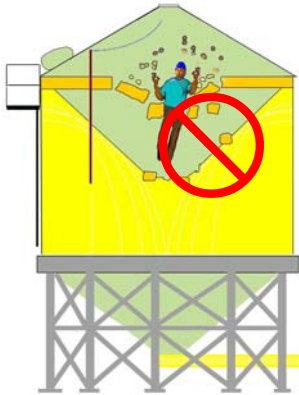

Figure 10a.
3. Never enter a bin that you do not know the nature of previous grain removal, especially if there is any vertical or horizontal **crusting or bridging** evident. See **Figure 10a**, left. There may be blocked flow, toxic molds, empty cavities, cave-offs, or any combination of the above—which can lead to entrapment/engulfment and suffocation.
10. Provide *per entrant* a minimum of two (2) **properly equipped attendants** stationed outside the bin, whose only task is to continuously track and communicate with the entrant in the bin, to provide assistance if necessary, and to be capable of lifting the entrant out without entering the bin themselves. **Never depend** on one (1) attendant only, either on the roof, ground, or any other remote point to whom you would shout instructions *to start or stop equipment*. (Equipment noise or other sounds can block out commands or cries for help.) A single attendant cannot go for help **and** maintain preliminary aid outside, and may fall or over-exert in the haste of running to the control point.